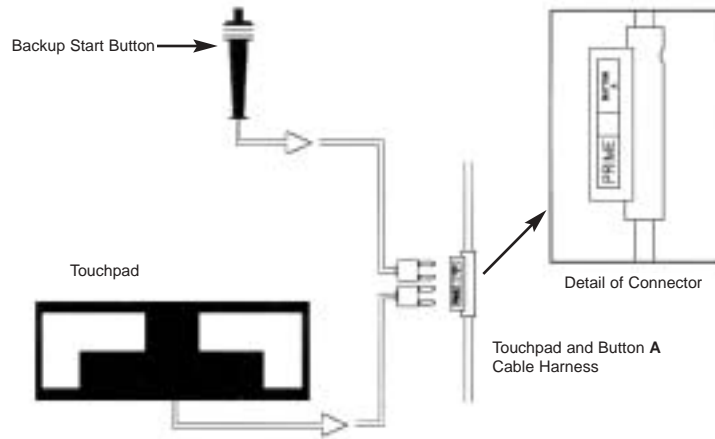

Figure 2-B Touchpad/1-Button Backup Finish
- 2) Route the input cable harness(es) along the pool deck as shown in Figure 2-E. Plug the touchpad connectors into the prime connectors on the touchpad and button A cable harness as shown in Figure 2-B. If you have in-deck connector plates, plug the touchpad connectors into the touchpad slot.